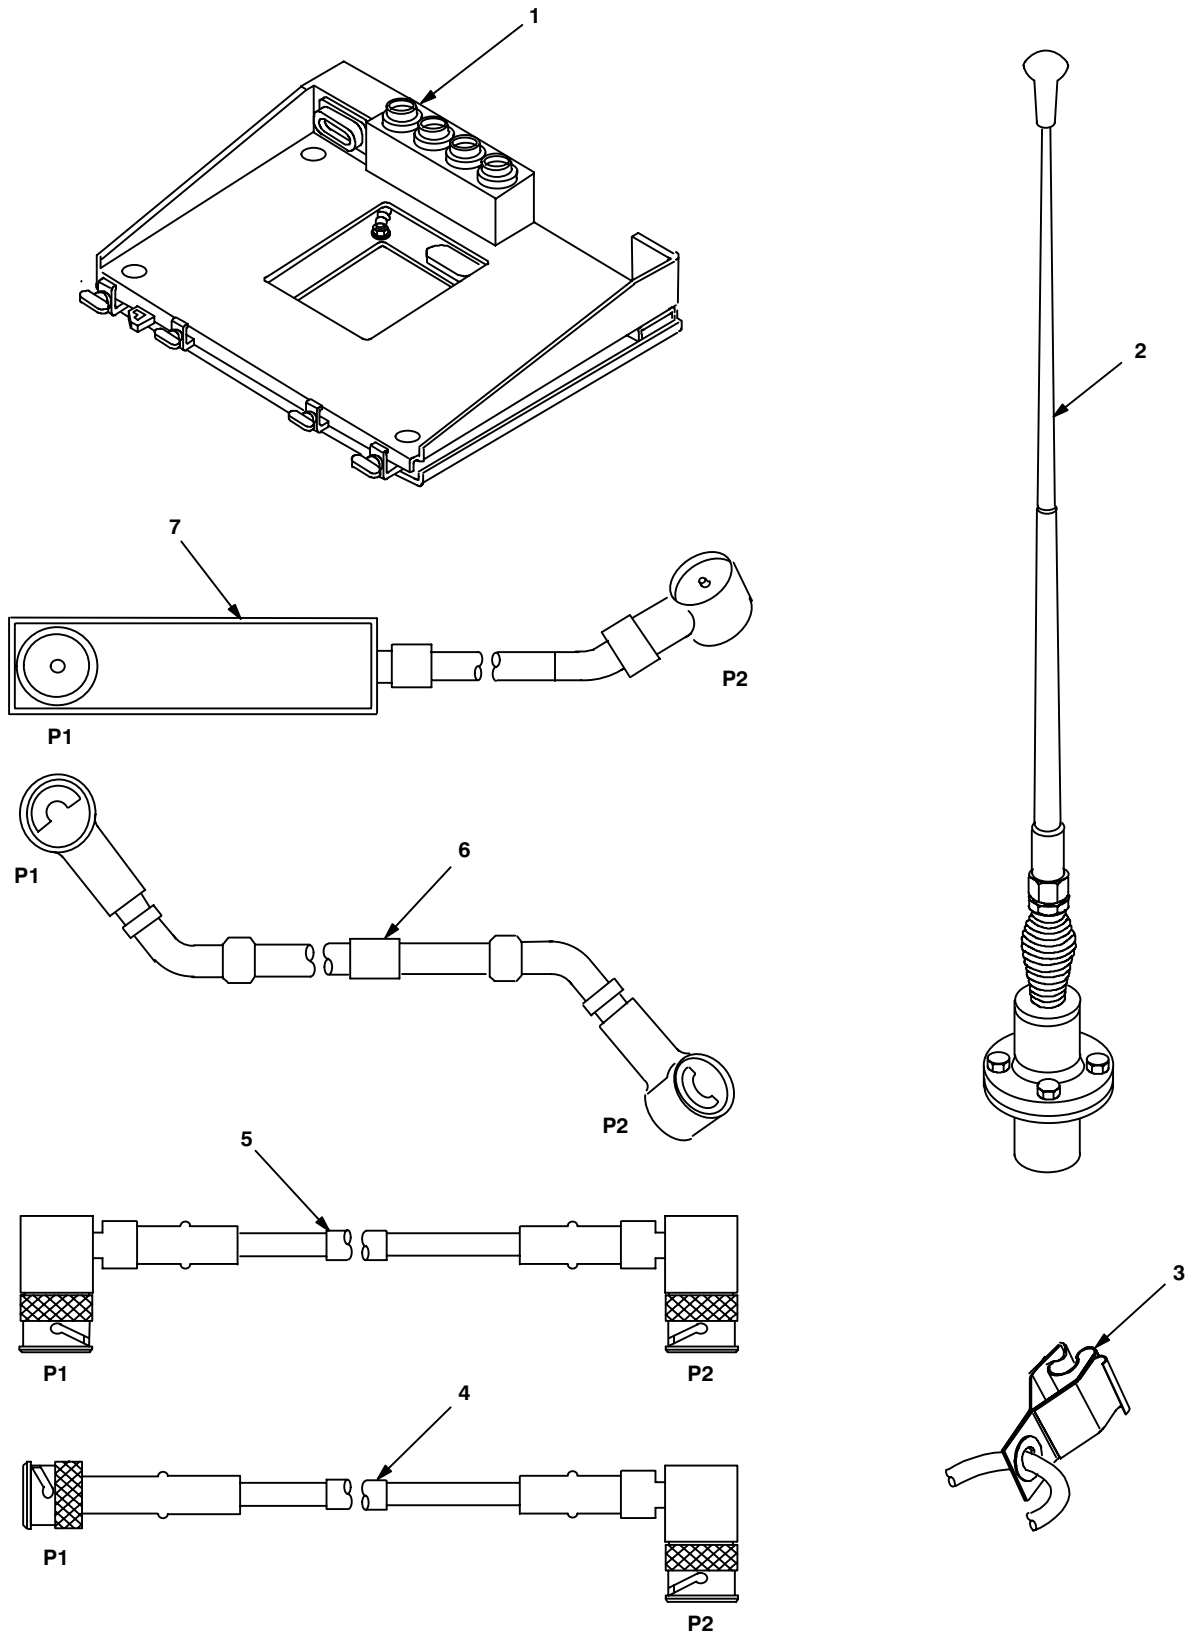

Figure 4-1. MK Illustrated Parts List
**4.3.1 Items Supplied in MK and/or Required for Installation.** Use table 4-1 and figure 4-1 to identify and inventory MK parts.